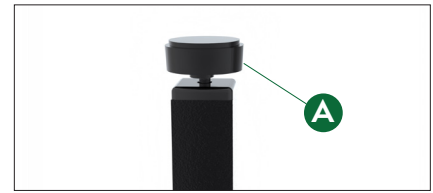

Figure 1
2. **Figure 1:** Thread the four leveling feet (A) into the legs, all the way up to the locking nut.